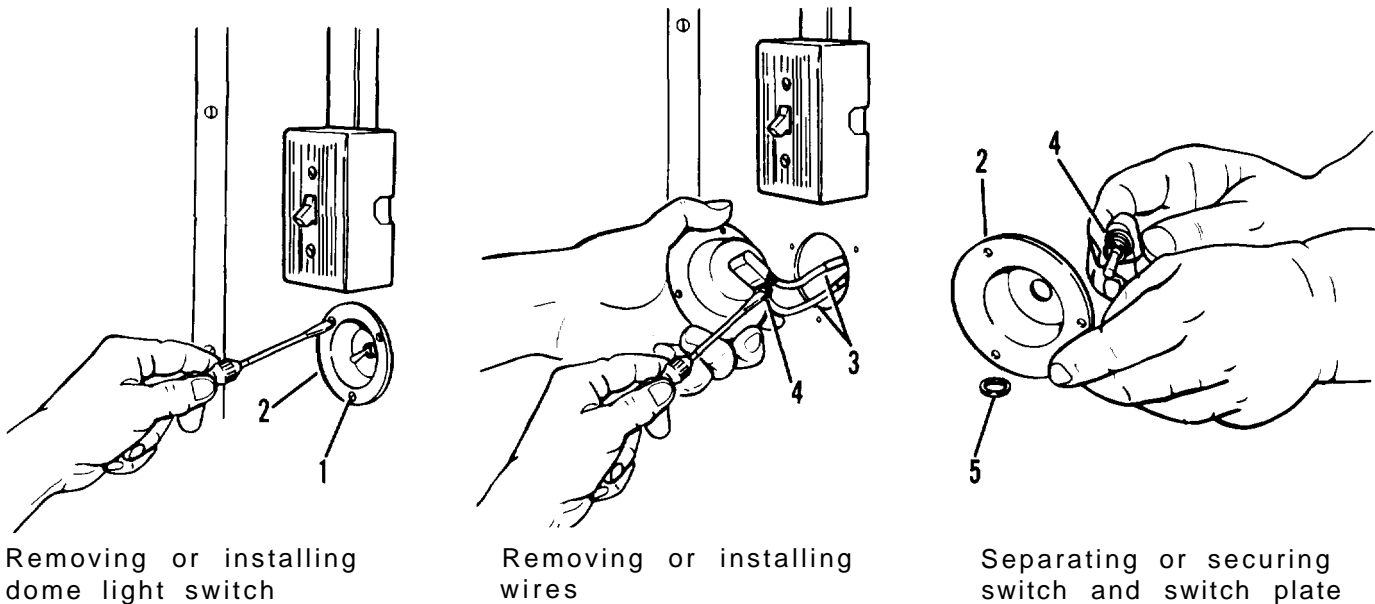

Figure 4-11. 24 volt dome light switch replacement
- (1) Remove three screws (1, figure 4-11) securing switch plate (2) to wall.
- (2) Pull switch plate (2) away from wall. Tag and disconnect two wires (3) from switch (4).
- (3) Remove retainer ring (5) securing switch (4) to switch plate (2). Separate switch (4) and plate (2).
- (1) Secure switch (4, figure 4-11) and switch plate (2) together with retainer ring (5).
- (2) Install two wires (3) on switch (4).
- (3) Secure switch plate (2) to wall with three screws (1).